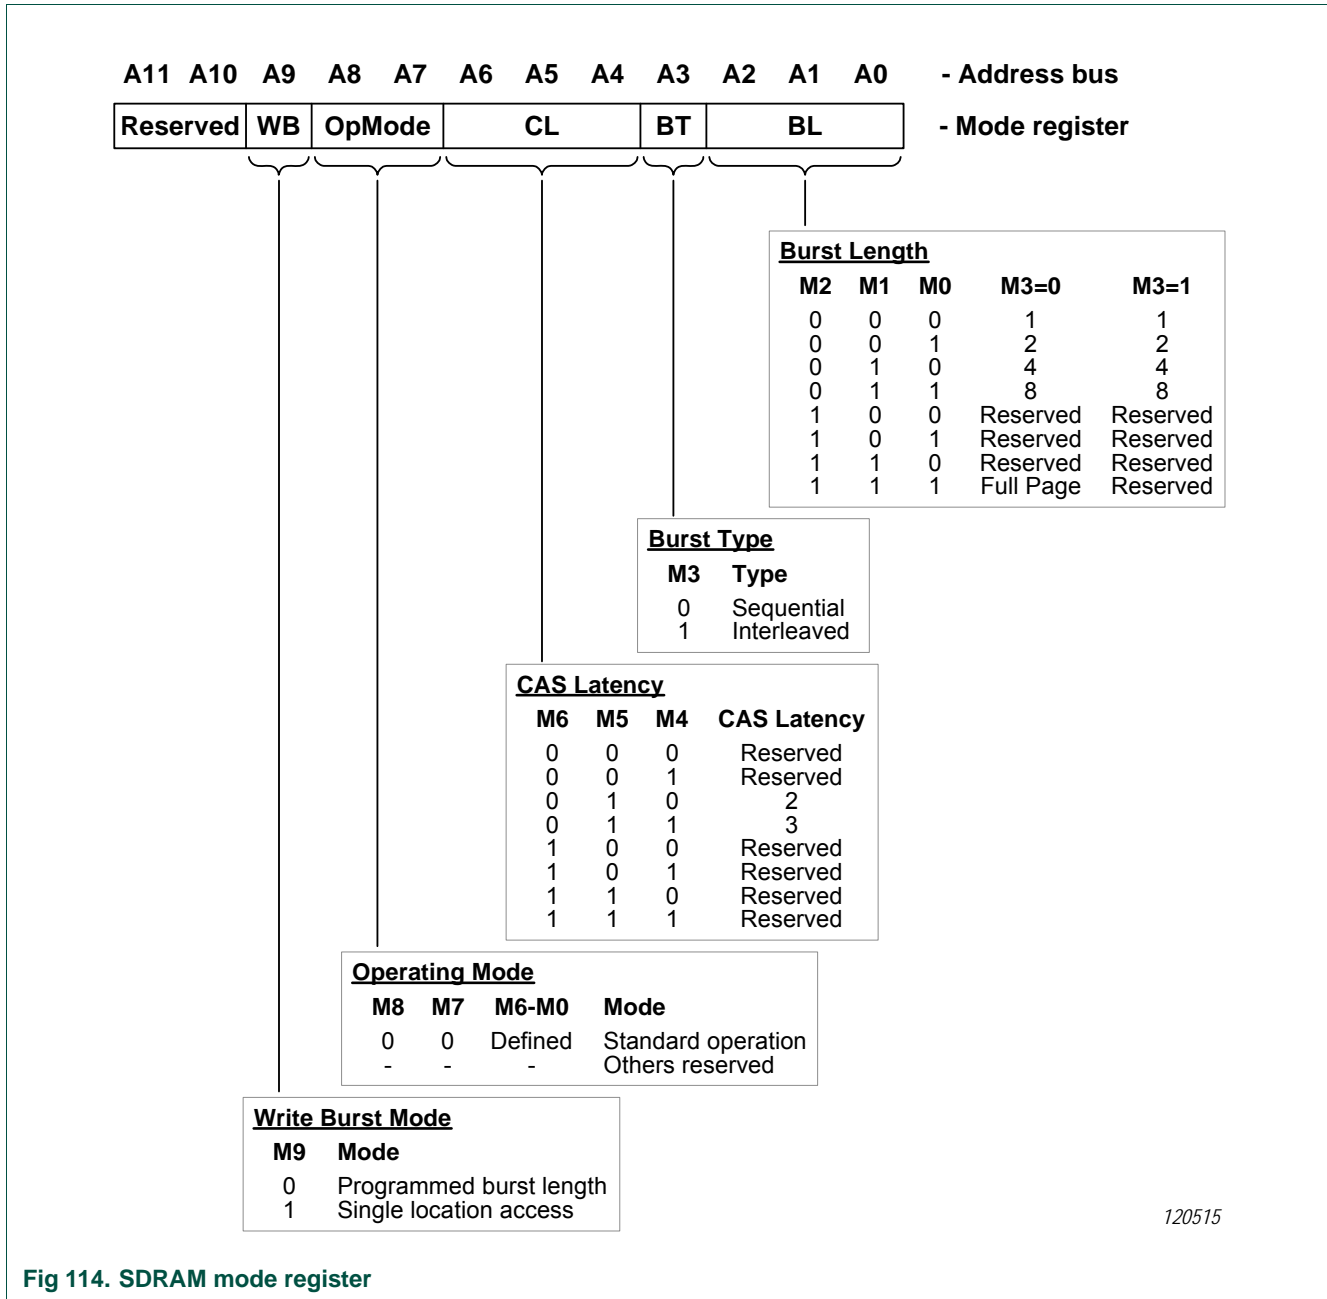

Fig 114. SDRAM mode register
When using the EMC with SDRAM, the SDRAM devices must be configured appropriately for the EMC. This includes setting up the SDRAMs for a 128-bit sequential burst. The burst configuration is done through a mode register in the SDRAM memory. Figure 114 shows the layout for a JEDEC standard SDRAM mode register.
- Mode register value, based on information from both the SDRAM data sheet, as in Figure 114, and the EMC. In this example, the value will be 0x23. This represents a programmed burst length, CAS latency of 2, sequential burst type, and a burst length of 8, as described in Section 33.5.